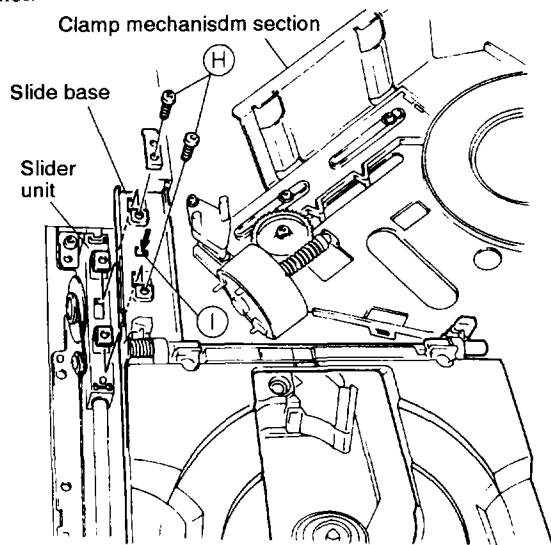

Fig. 4
3. Remove the two screws (H) and remove the slide base from the slider unit by pushing the hook (I). (Fig. 4)